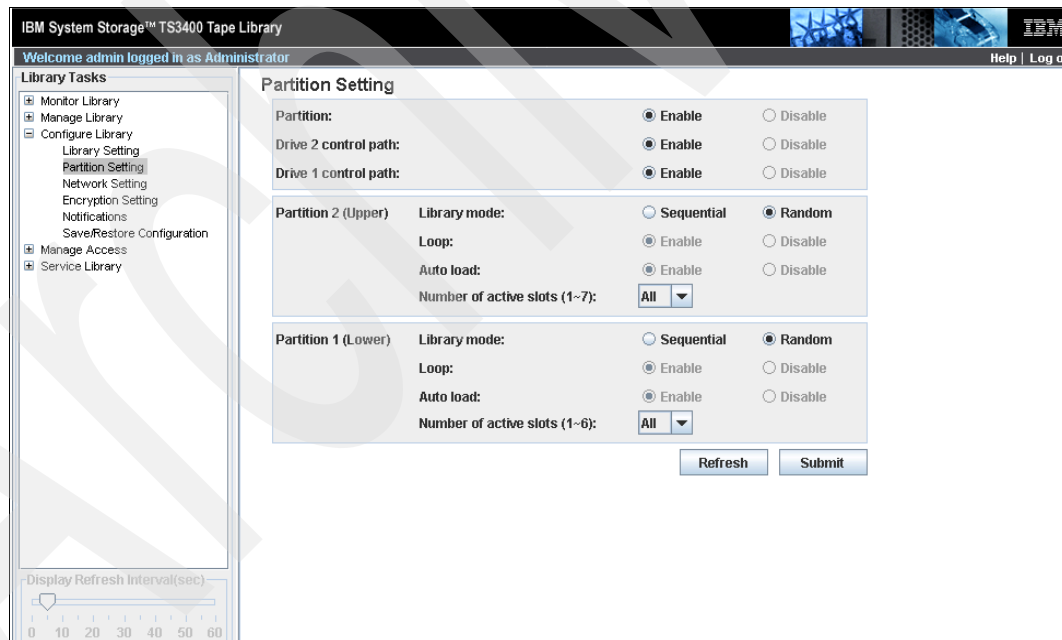

Figure 2-20 IBM TS3400 Partition Setting example
2. Select the **Partition Setting**, and you see the map shown in Figure 2-20.